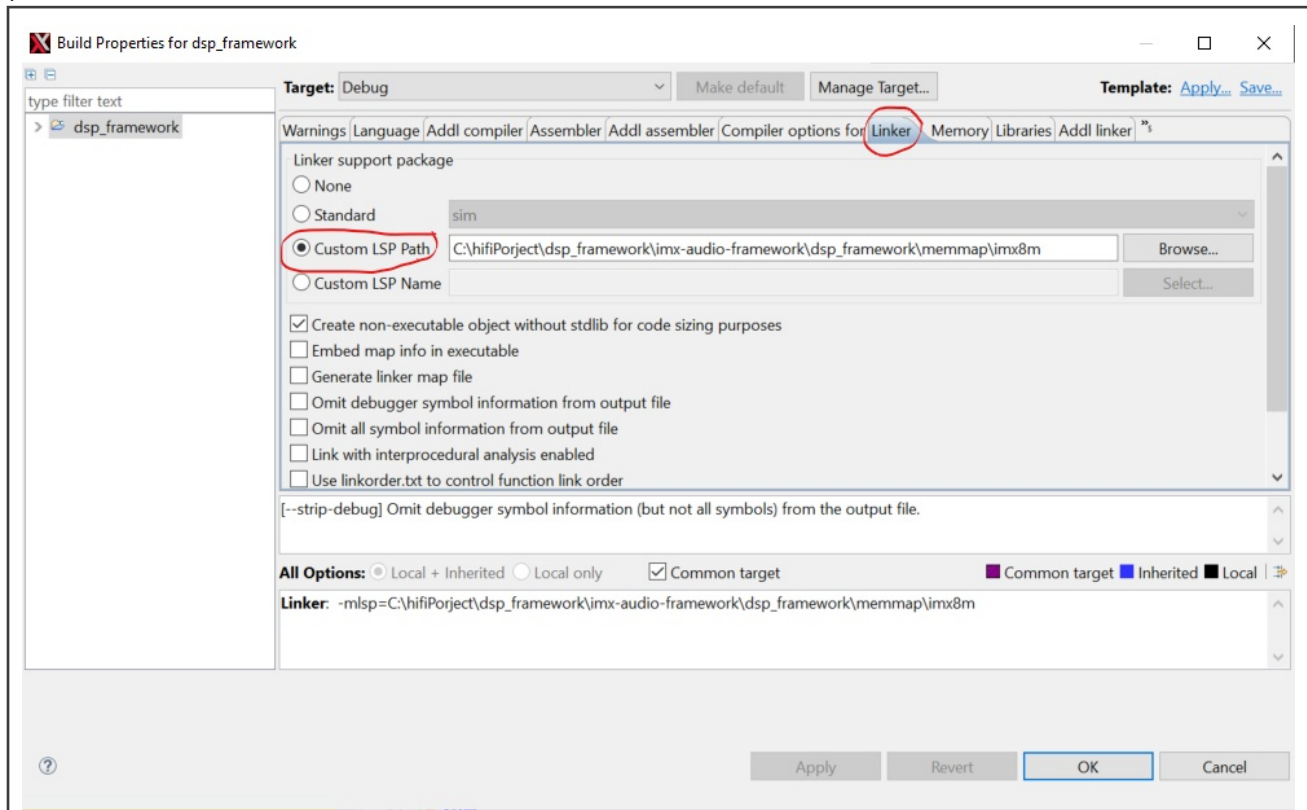

Figure 10. “Linker” option
- Click the “Linker” option and configure the custom LSP path as shown in Figure 10. Click the “OK” button to finish this process.